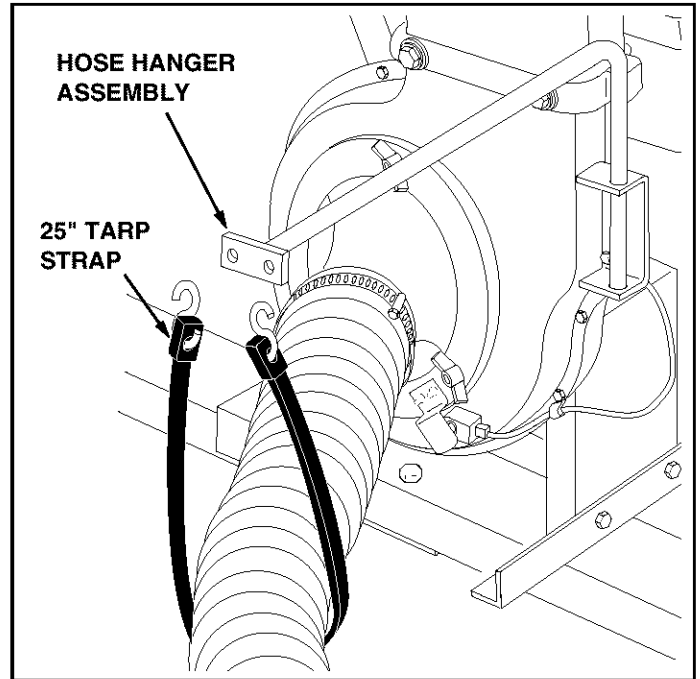

FIGURE 20
- Loop the 25" tarp strap under the hose. Fasten the hooks to the hose hanger rod assembly. See figure 20.